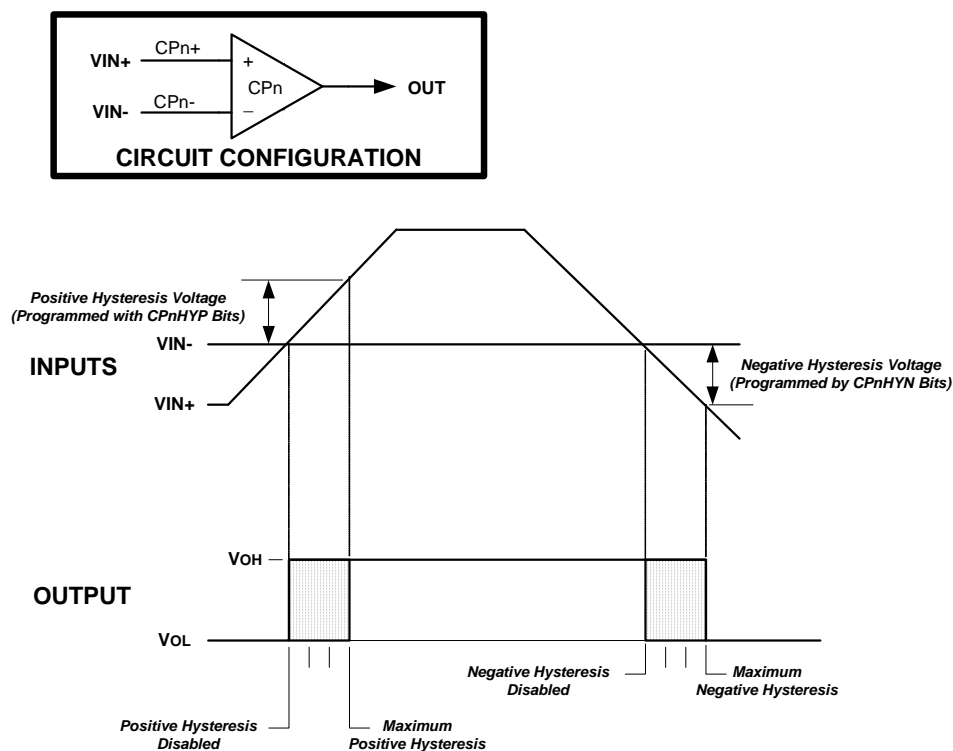

**Figure 14.2. Comparator1 Functional Block Diagram**
C8051T620/1/6/7 & C8051T320/1/2/3 devices include two on-chip programmable voltage comparators: Comparator0 is shown in Figure 14.1, Comparator1 is shown in Figure 14.2. The two comparators operate identically with the following exceptions: (1) Their input selections differ as described in Section “14.1. Comparator Multiplexers” on page 84; (2) Comparator0 can be used as a reset source.